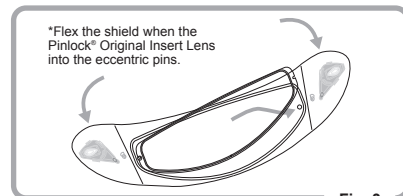

Fig. 3
2. Flex the shield carefully until the shield becomes flat. Then, click the other side of the Pinlock® Original Insert Lens into the eccentric pins and then allow the shield to return carefully to its original curved shape. Make sure the Pinlock® Original Insert Lens to be fit inside the chase (Fig. 3,4 and 5). (Follow 3 on next page)